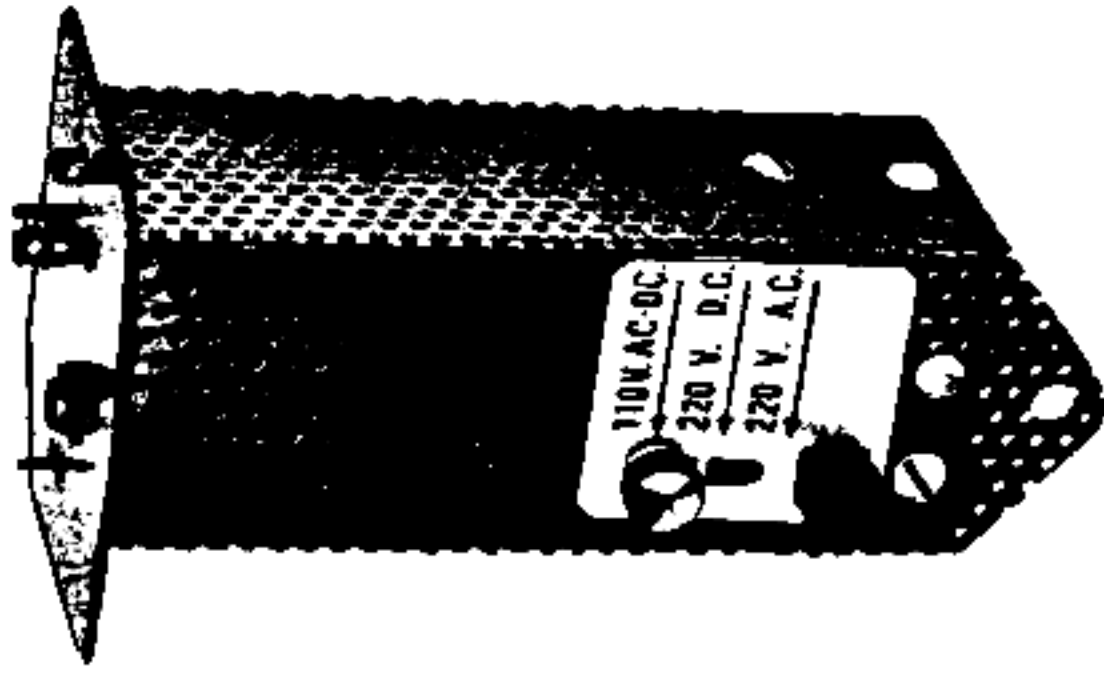

Figure 6—Ballast Adaptor Switch Positions.
2. Move the switch on the ballast adaptor to either 110 volts AC-DC, 220 volts DC or 220 volts AC position to conform to the type current on which the set is to be operated. (See Figure 6.)